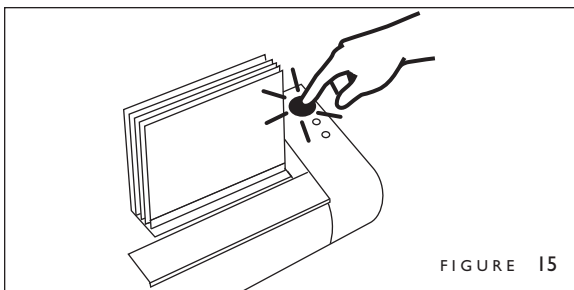

FIGURE 15
6. Press the BIND button (figure 15). The binding process will begin.